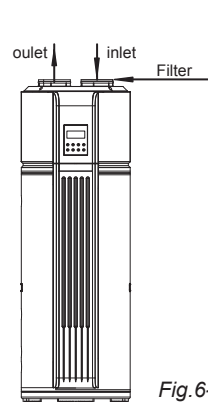
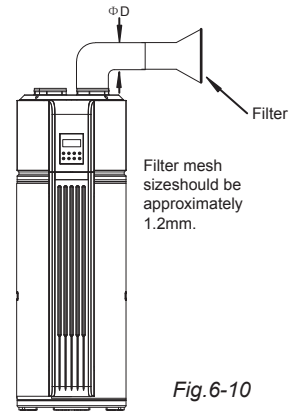

Fig.6-9
Fig.6-10
- There is a filter on the inlet. In terms of the main unit connect with duct, additional filter may be put forward to the air inlet of duct to protect possible blockage. (Fig.6-9 and Fig.6-10)